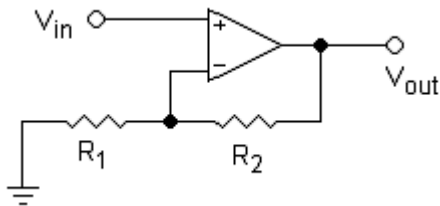

Figure 4
- Set up the non-inverting amplifier circuit of Figure 4 with $R_1 = 10\text{ k}$. With a 1 kHz sinusoidal input having different amplitudes, calculate the output with $R_2 = 100\text{ k}$ and with $R_2 = 10\text{ k}$ using the formula and write the results in front of each input in Table 2: